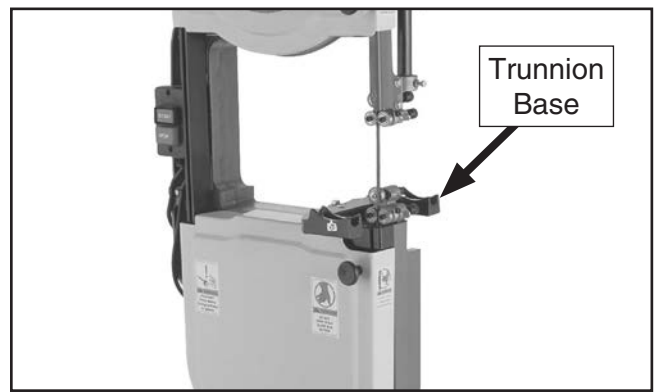

Figure 8. Installing trunnion base.
6. Fasten trunnion base to bandsaw, as shown in **Figure 8**, with (2) M8-1.25 x 30 hex bolts and (2) 8mm lock washers.